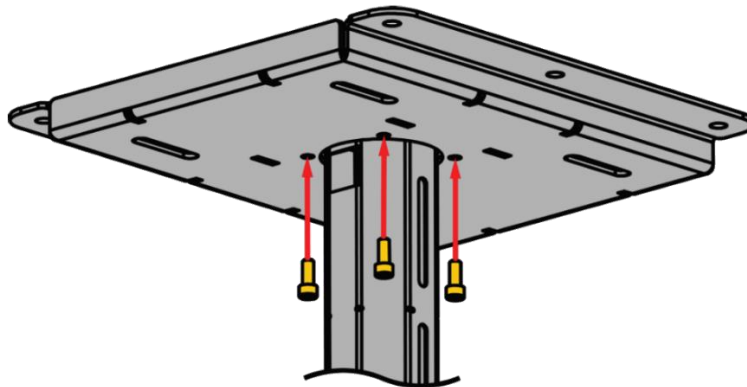

Figure 79: Step 2
Step 2: Attach the upper tube ② to the ceiling plate ① with bolts ④ (4 pcs.), as shown in **Figure 79**.